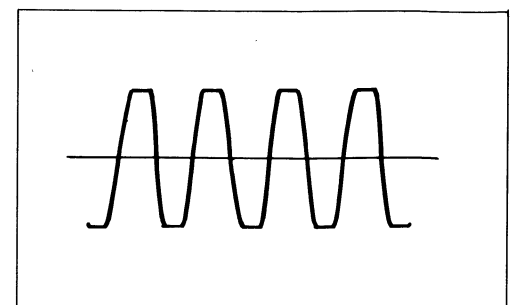

Figure 11-4
6. Adjust the semi-variable resistor (VR201 or VR202) so that the waveform becomes as shown in Figure 11-4.